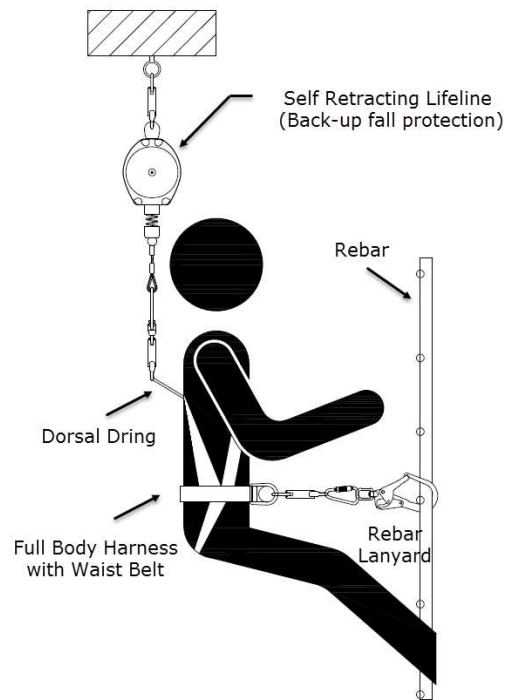

Figure 2 - Personal Fall arrest system
- C.4 PERSONAL FALL ARREST SYSTEM:** See Figure 2. Yoke recommends that this equipment be used with a personal fall arrest system to protect the user if the rebar chain assembly disengages from the anchorage point, or when the user detaches from the work positioning system during movement. Refer to OSHA 1926.50 and 1926.053 for more information.
- c **BACK-UP FALL PROTECTION:** Yoke recommends that this equipment be used with a personal fall arrest system. See section C and Figure 2 for more information. Consult the personal fall arrest system manufacturer's instructions for more information about proper use.
- c CONNECTING THE PERSONAL FALL ARREST SYSTEM:** Connect the personal fall arrest system to the dorsal back D-ring on your full body harness. See Figure 2. See personal fall arrest system manufacturer's instructions for more information